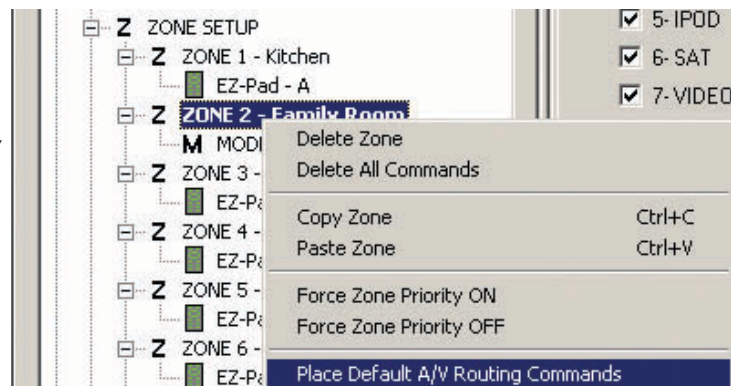

Figure 23
- To assure that the sources connected to the MZC will be properly routed to the local zone, a set of default A/V routing commands can be assigned to the source icons on the MODE 3.1. Under **Project Content/Zone Setup**, right click the Zone 2 icon. Highlight and left click **Place Default A/V Routing Commands**. The MZC Internal Commands for all source A/V signal routing will be automatically assigned to all sources available to the MODE in Zone 2. (Refer to **Figure 23**)